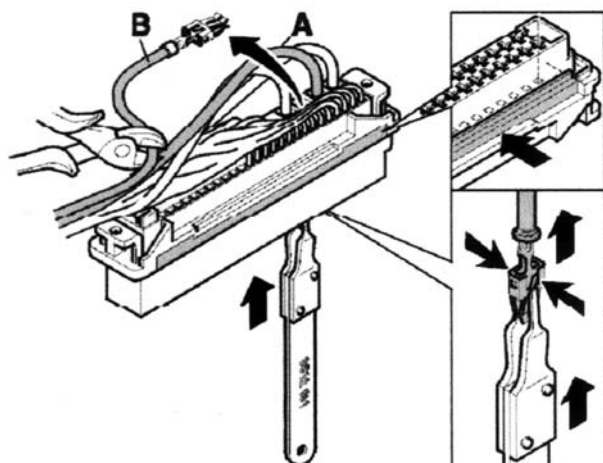

Fig. 1 (plug up to model year 1997)
- Open the connecting plug and remove the voltage supply cable (up to model year 1997 pins 2 and 3, from model year 1998 pins 17 and 18). Cut the cables off as far as possible before the insulation (Fig. 1).